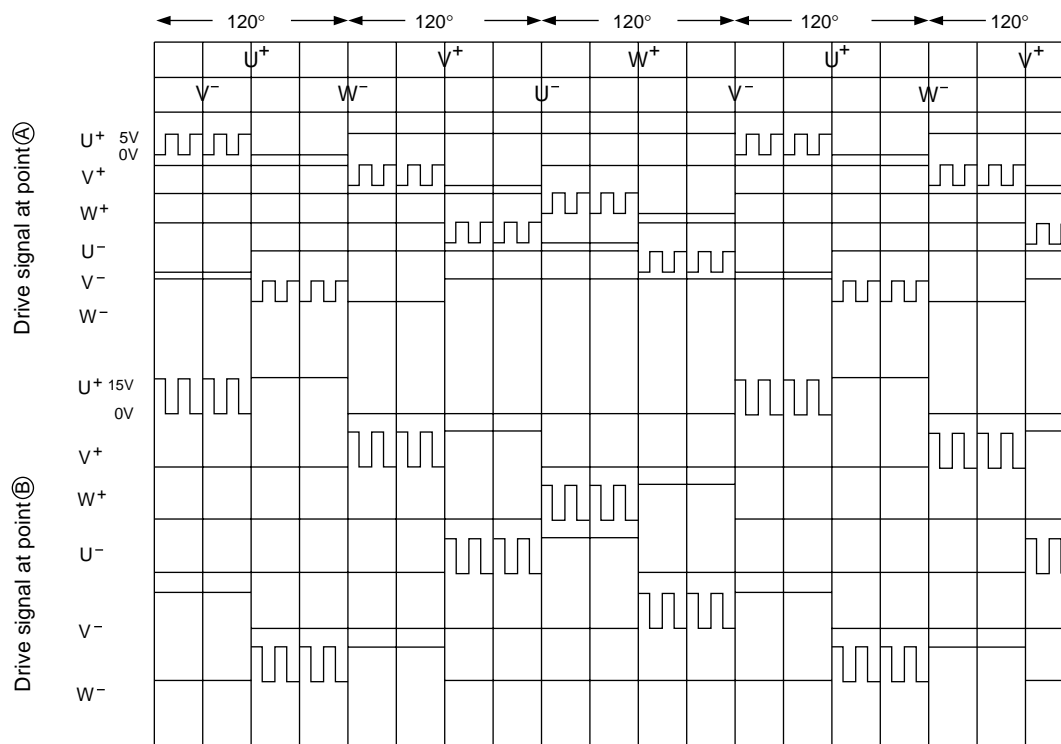

Fig. 11-2
- Fig11-2, 0 to 5V chopper signal is output from microcomputer for each phase. The signal output from microcomputer is input to IC, inverted due to active LO, and 0 to 15V chopper signal is obtained. This signal is then applied to transistor gate of each phase to drive.